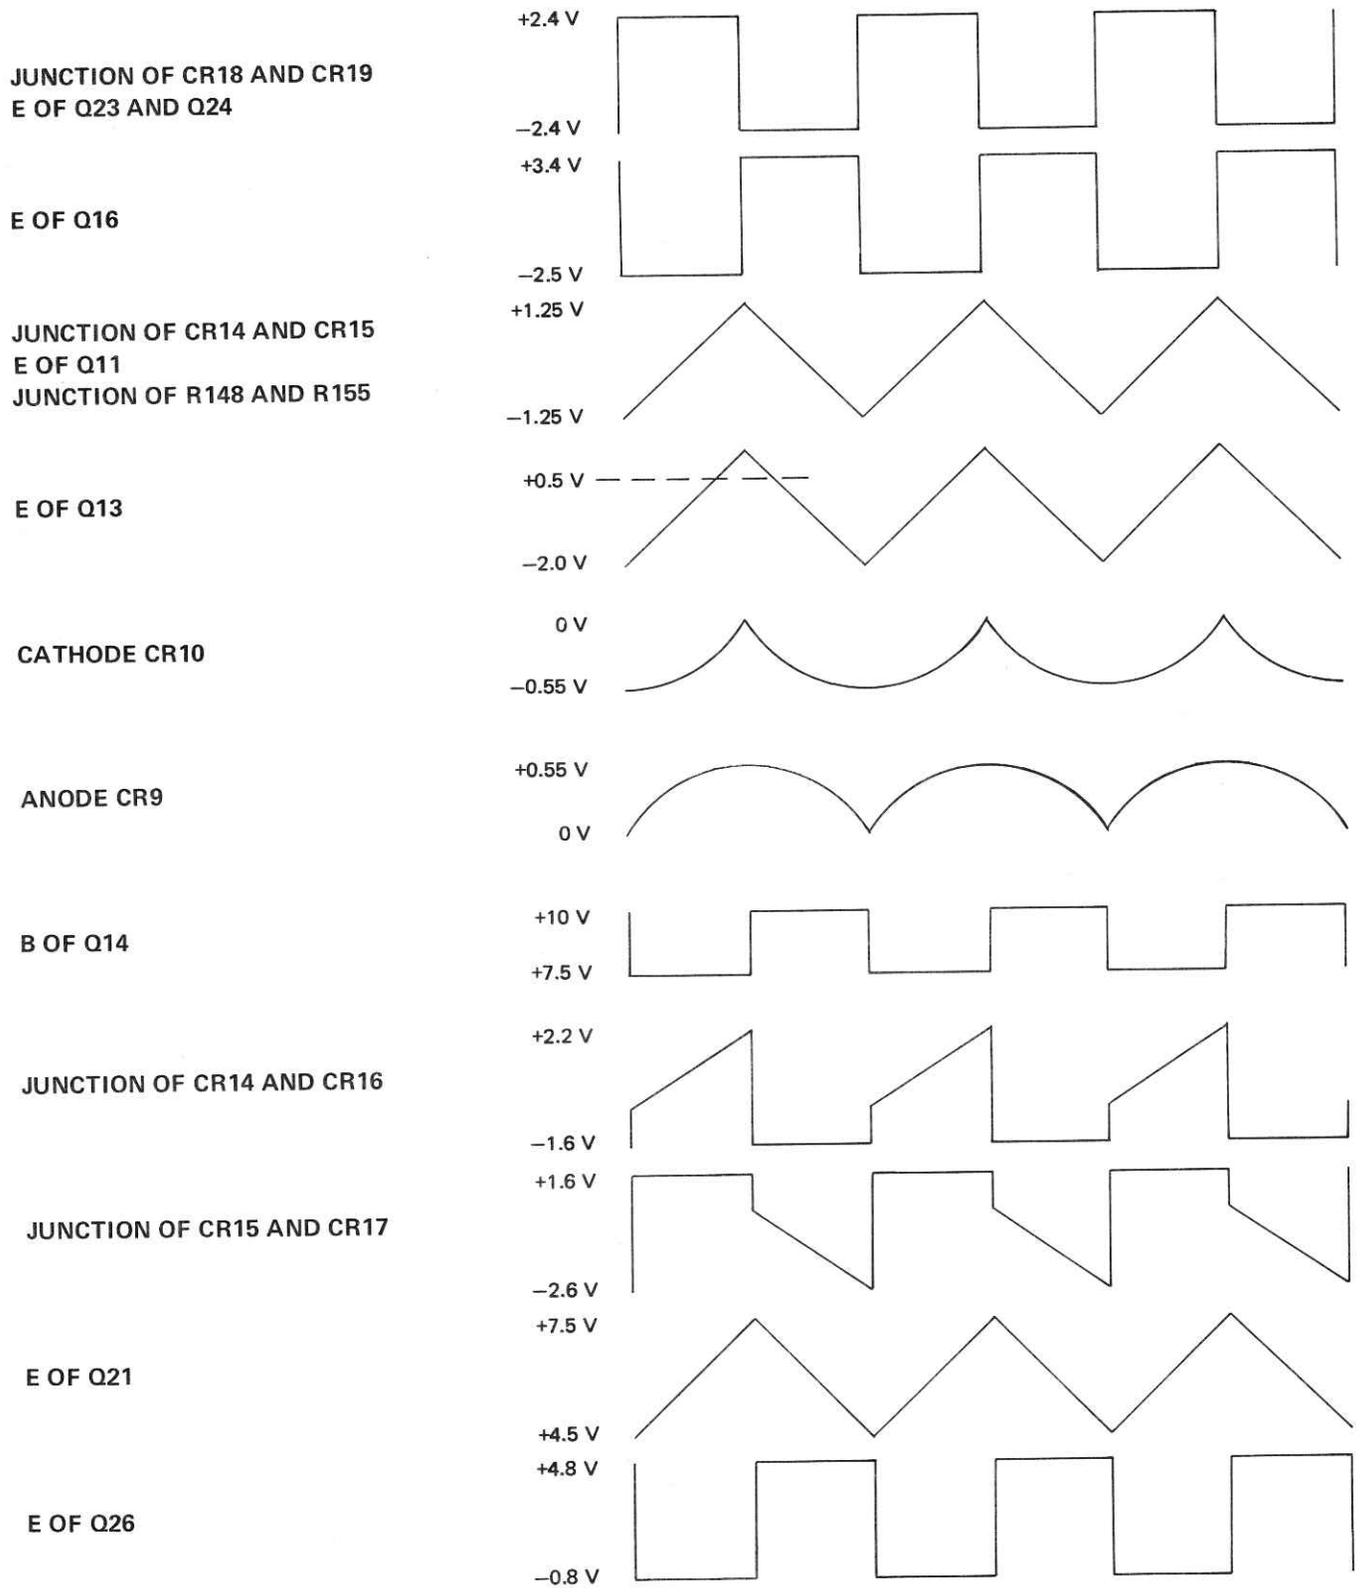

Figure 5-1. Key Waveforms of ~ Amplifier No. 1, Amplifier No. 2, Comparator and Hysteresis Switch
c. Check for defective CR9 and CR10 (to check, set frequency to 3 kHz and compare waveform at the diode as shown in Figure 5-1). |